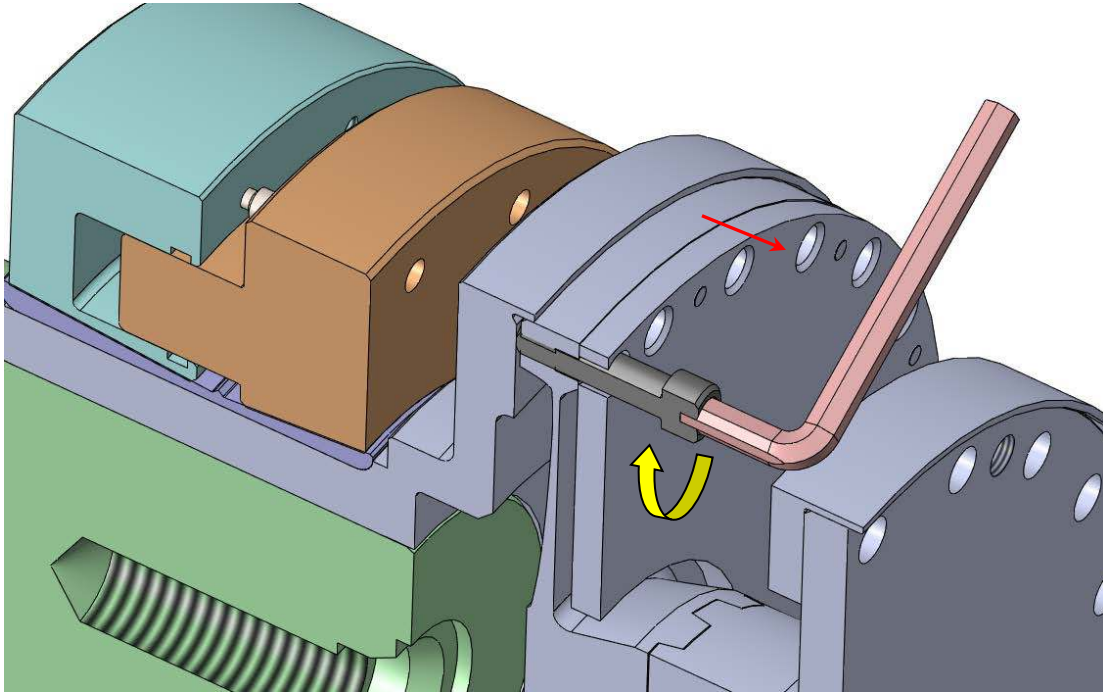

Figure 19 – Use of Jacking Screws to Disengage Pilot Fit
5.2.3 While supporting the flex assembly weight, turn the jacking screws in an even criss-cross pattern to disengage the assembly from the hub, as shown in Figure 19. Remove the jacking screws from the taps.